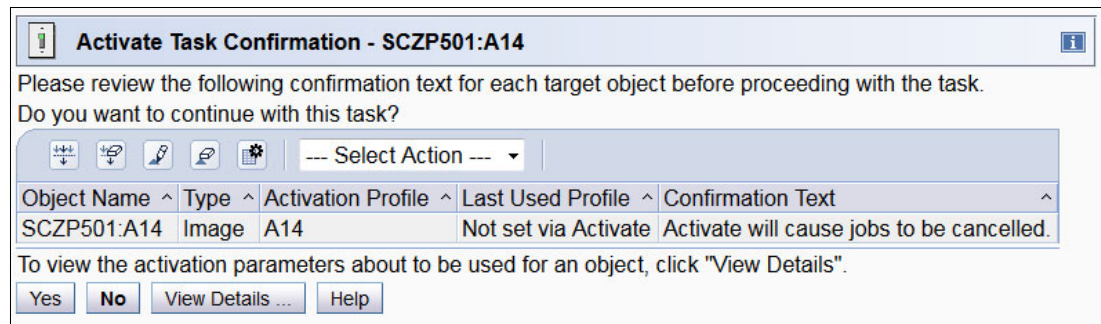

Figure 11-17 The HMC: Activate Task confirmation
2. In the Activate Task Confirmation window (Figure 11-17), confirm that the activation profile is correct, and click **Yes**.